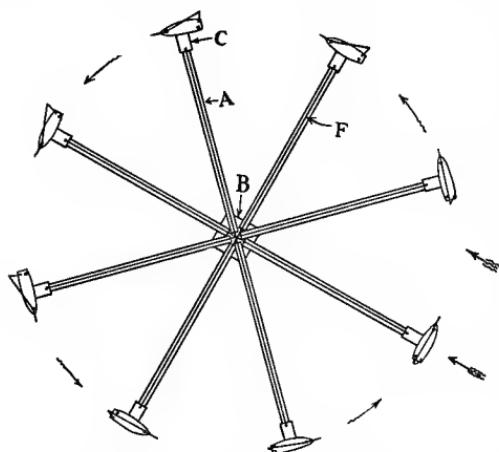

FIG. 169.—Plan of Windmill Clothes-Dryer.
*C* about  $2\frac{1}{2}$  inches wide by 8 inches long. Nail blocks *C* to the upper ends of the arms, and drive the nail *E* into each block near the inner end. Either bolt or screw the lower ends of the arms to block *B*, spacing the arms as shown in Fig. 169.
The peg *J* (Figs. 172 and 173) is necessary to prevent the boom from swinging over the port side of the yacht. By this arrangement, the yachts will always sail *counter clockwise*, no matter which way the wind is blowing, provided you mount them with their bows headed in this direction (Fig. 169).